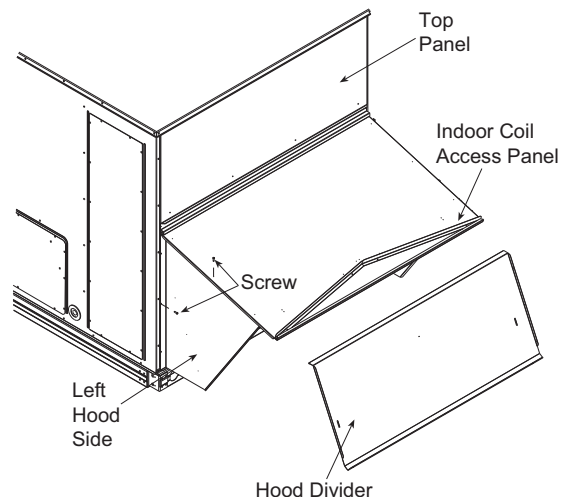

Fig. 11 — Economizer Hood Construction
2. Swing out indoor coil access panel and insert the hood sides under the panel (hood top). Be careful not to lift the panel too far, as it might fall out. Use the screws provided to attach the hood sides to the hood top. Use screws provided to attach the hood sides to the unit. See Fig. 11.
4. Insert the hood divider between the hood sides. See Fig. 11 and 12. Secure hood divider with 2 screws on each hood side. The hood divider is also used as the bottom filter rack for the aluminum filter.